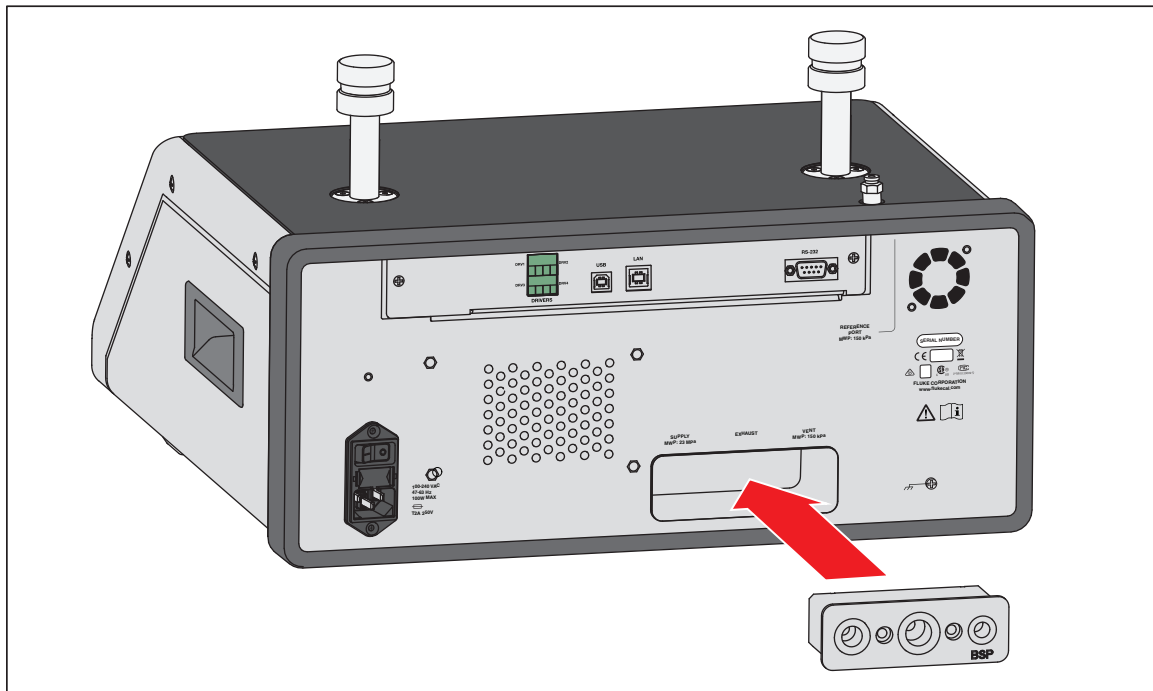

Figure 30. Manifold Installation
3. Replace the manifold and tighten the four bolts, torque: 6.2 N m (55 lbf in). See Figure 30.